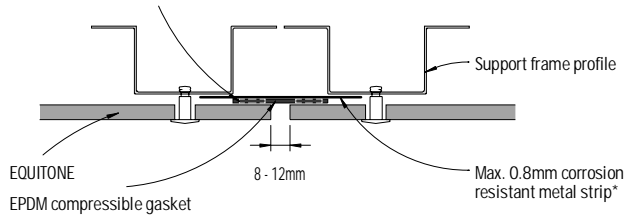

Figure 4: Vertical joint - Detail 2
- 1) In Figure 4 & 5, the metal strip should be fixed ONLY to one of the support frame profiles (either left or right) where allowance for horizontal and/or vertical movement of the cladding frame is required.